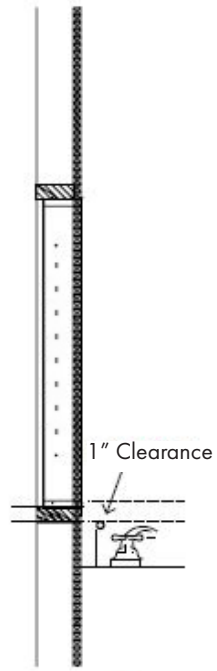

Fig. 2
2. Allow for 1" of clearance on height elevation above any obstructions as illustrated in figure 2. Note the door will exceed the wall opening by 1" on top and bottom of most cabinets. Refer to technical data for exact sizes.